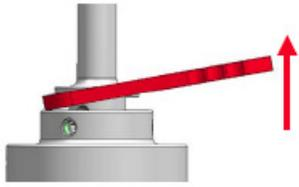

Fig. 5
2. Pull the blade housing forward, away from the tool head using the smaller end of the SOLO Disassembly KEY (fig. 5).